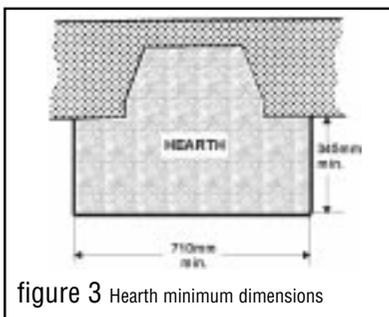

figure 3 Hearth minimum dimensions
- 2.11** The appliance must be mounted behind a non-combustible hearth with minimum dimensions as figure 3. (n.b conglomerate marble hearths are considered as non-combustible). The appliance can be fitted to a purpose made proprietary class "O" 150°C surround. The hearth material must be at least 12mm thick. The periphery of the hearth (or fender) should be at least 50mm above floor level to discourage the placing of carpets or rugs over it.